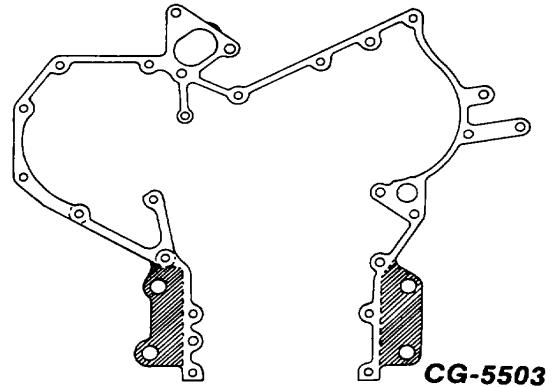

Figure 28. - Front Cover Gasket (Rear View)
- a. For front covers with "ears" install the gasket as shown in Fig. 28. **DO NOT remove ears (shaded areas).**
- b. When the gasket (Fig. 28) is used on "earless" front cover applications, install the gasket and front cover then remove the ears (shaded areas on Fig. 28).